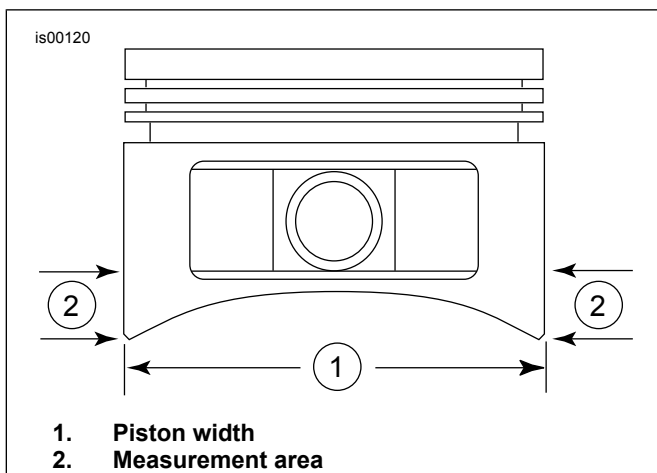

Figure 1. Piston Measurements
5. See Figure 1. Measure the piston width (1), 90 degrees horizontally from both sides of the pin piston pin hole and at 1/2 in. above (2) the lowest portion of the skirt above the chamfer.